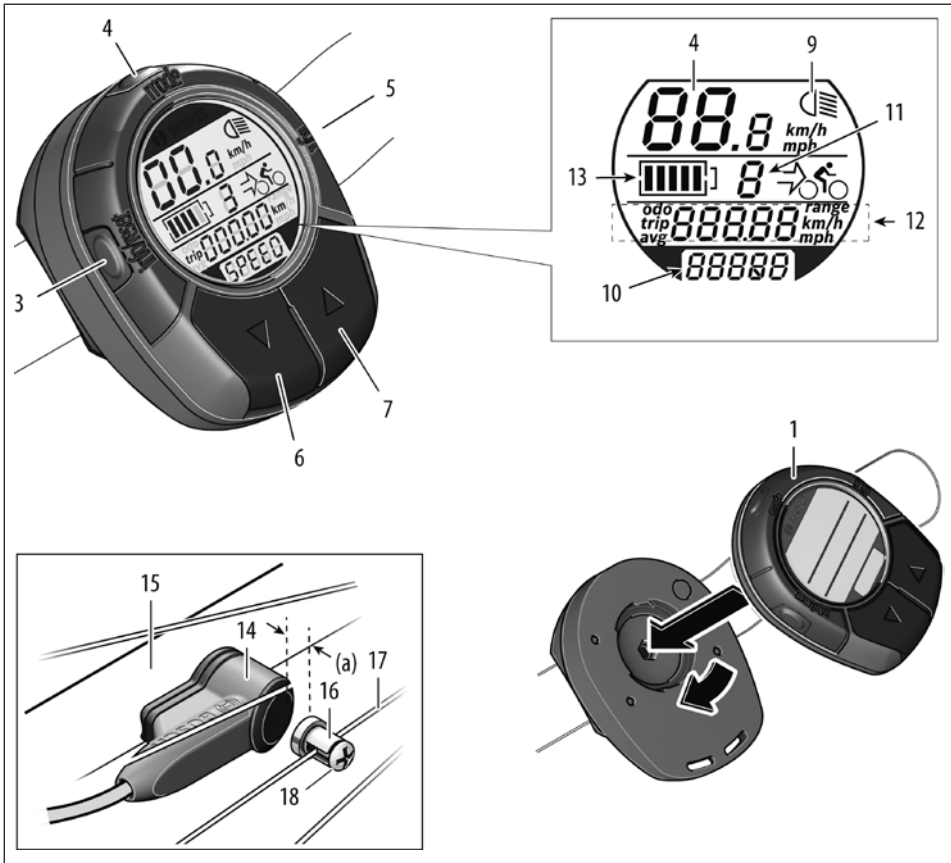

Figure 4.
See Figure 4. The handlebar mounted interface (HMI) is a cycling computer (1) that enables you to both control the bicycle's drive assistance functions as well as turn lighting on and off, and display speed, distance, and display trip several functions. The buttons and display functions/features of the (HMI) are described on the next several pages.
See Figure 4. The BOSCH speed sensor (14) is mounted on the rear chainstay (15). This device must be attached and functioning properly in order for system to work. If it is damaged, set-up incorrectly, or the magnet (16) is not present on the wheel spoke (17) the drive system and speedometer will not function.
See Figure 4. Press the light button (5) on the HMI. When the lighting is turned on the computer unit back light illumination is on, the indicator (9) appears on the computer display. Lighting will remain on until it is turned off with the button or power from the battery or wheel hub generator is no longer available. If the drive assistance is disabled due to a low battery charge level, lighting will remain on until the battery is completely discharged.
See Figure 4. Use the information reset select button (3) to interact with the features of the cyclometer: Speed, Average Speed, Total Trip, and Trip Distance.
The drive assist components of the drive system are constantly reviewed automatically for error conditions. If an error is detected, the corresponding error appears in the display. **See Figure 4, item 11.** Depending on the type of error, the drive system may be switched off automatically. This happens to prevent further damage. If it happens, the bike can be pedaled normally. Contact your Cannondale Dealer with the error code information encountered.